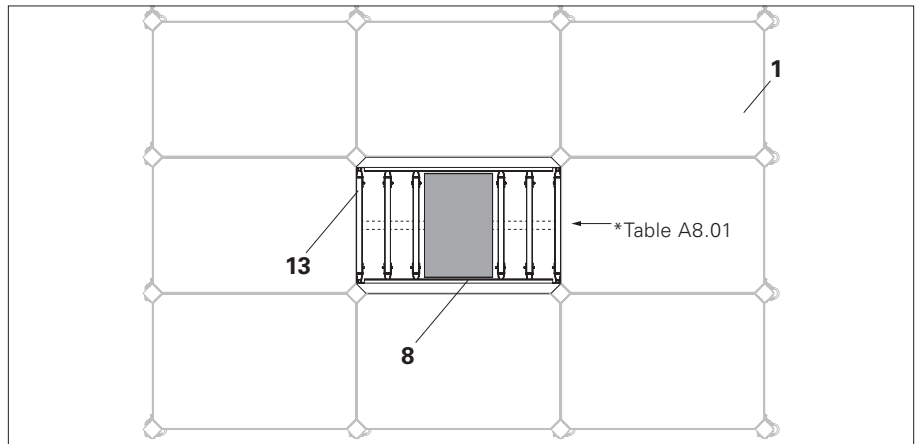
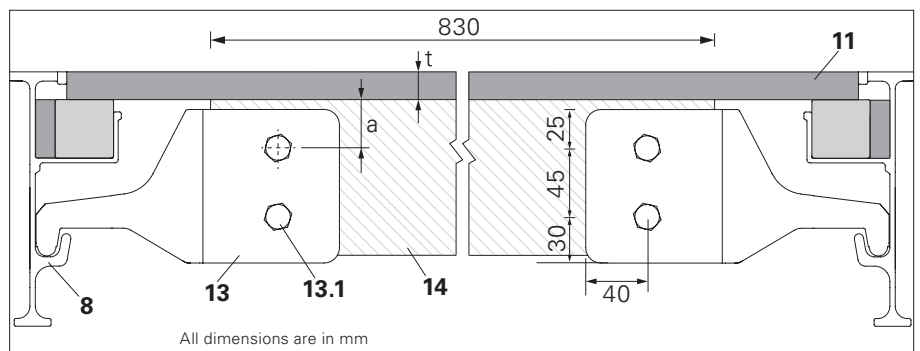
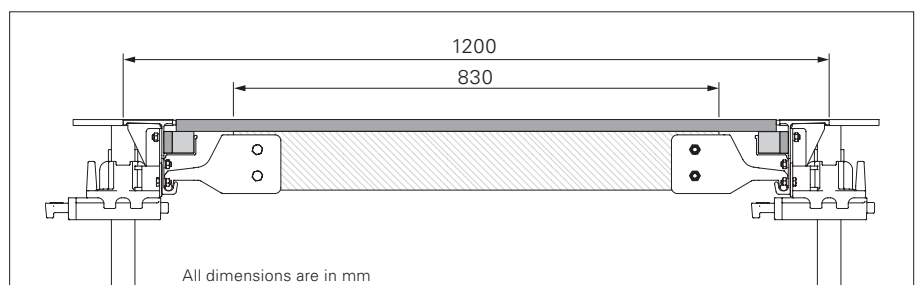

Fig. A8.01
Fig. A8.01a
Fig. A8.01b
1. Form the slab with panel ADP (1) as close as possible to the column.
2. Place the filler beam ADF (8) on the drophead flyplate pin in the longer direction. (Fig. A8.01)
3. Cut the timber (14) size 50 x 100 mm as per required length.
4. Pre-assembly of cross beam head (13) and timber (14) size 50 x 100 mm should be done on ground. Drill the timber (14) and attach the timber to cross beam head with 2 no. of bolts and nuts (M10 x 80) (13.1) (Article no. 710593 and 710234) on each side. (Fig. A8.01a), (Fig. A8.01b) and (Table A8.02)